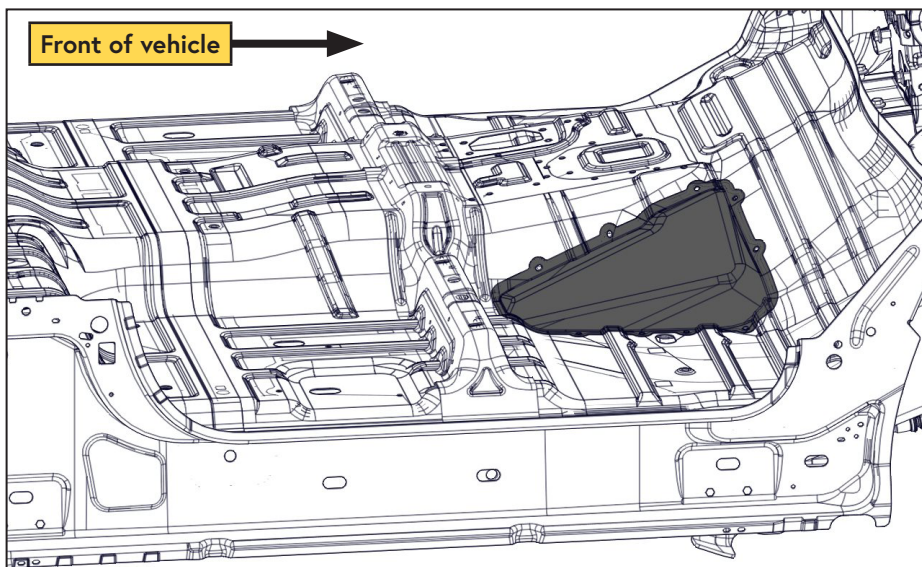

Figure 7 — PTO access hatch
- ☐ Remove the fasteners and sealer from the PTO access hatch (Figure 7).